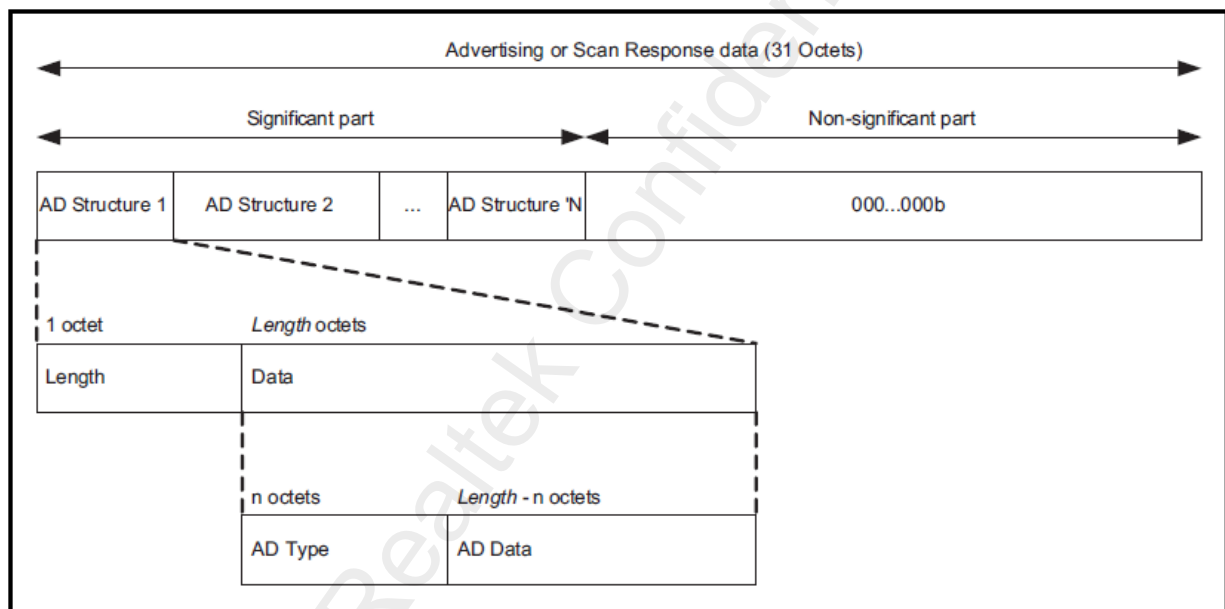

Figure 13 Advertising and Scan Response data format
1. Undirected advertising event: AdvA field is an address of the device sending advertising packets, and AdvData is in the format as is shown in Figure 13